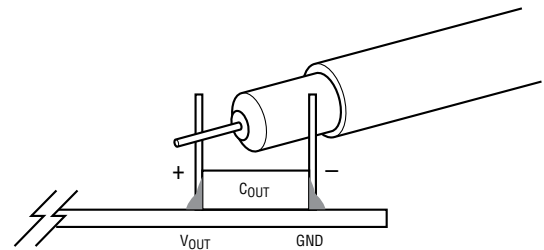

Figure 1. Measuring Output Voltage Ripple
Demonstration circuit 2824A-A is easy to set up to evaluate the performance of the LTC7131-1. Refer to Figure 1 for the proper measurement equipment setup and follow the procedure below.
- When measuring the output or input voltage ripple, do not use the long ground lead on the oscilloscope probe. See Figure 1 for the proper scope probe technique. Short, stiff leads need to be soldered to the (+) and (-) terminals of an output capacitor. The probe's ground ring needs to touch the (-) lead and the probe tip needs to touch the (+) lead.